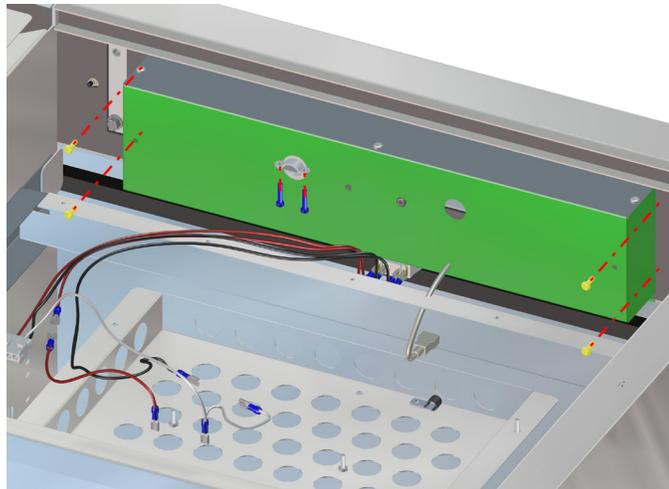

Fig. 6: Remove 6 screws
6. Remove the upper magnet strip located inside the bottom of the electrical component drawer on the top of the unit. To get better access to this strip, first loosen the 2 screws (shown in blue) from the conduit connector (Fig. 6).
7. Remove the 4 screws (Fig. 6 - shown in yellow) that fasten the box to the unit.